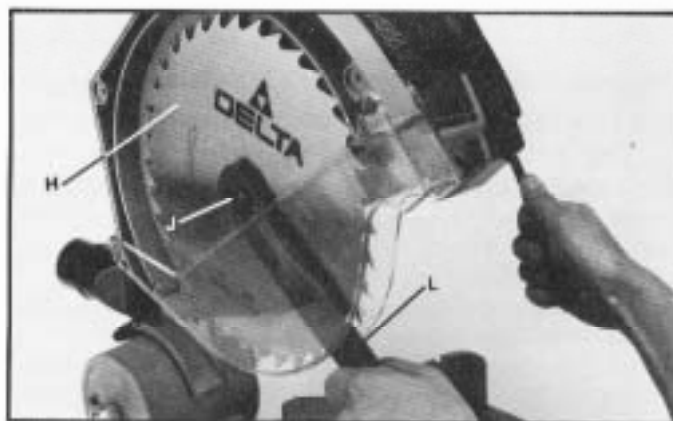

Fig. 8A
5. Assemble blade (H) Fig. 8A, to the saw arbor using the flange and arbor nut (J). **MAKE CERTAIN TEETH OF SAW BLADE (H) ARE POINTING DOWN AT THE FRONT OF THE SAW, AS SHOWN.** The arbor nut has a left hand thread. Turn the arbor nut (J) counterclockwise by hand as far as possible.
6. To tighten arbor nut, insert hexagon wrench (K) Fig. 8B, into hex hole in end of arbor shaft, to keep the shaft from turning and tighten arbor nut (J) Fig. 8A, using wrench (L). **REMOVE WRENCHES (L) FIG. 8A AND (K) FIG. 8B.**